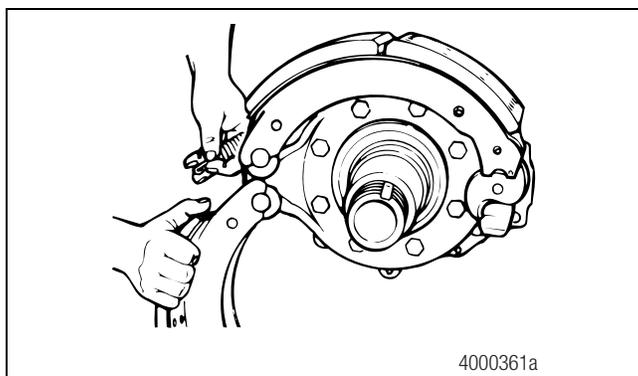

Figure 3.18
3. Place the upper brake shoe into position on the top anchor pin. Hold the lower brake shoe on the bottom anchor pin. Install two new brake shoe retaining springs. Figure 3.18.